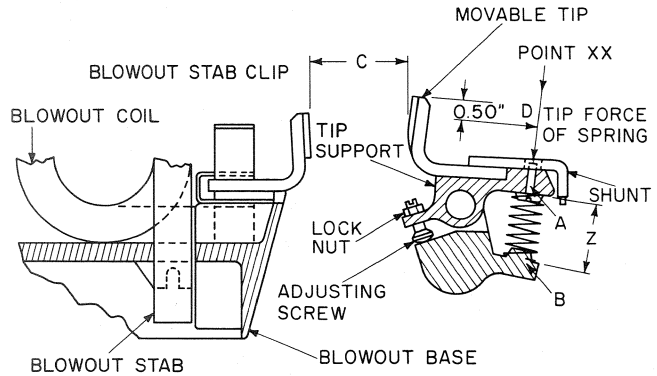
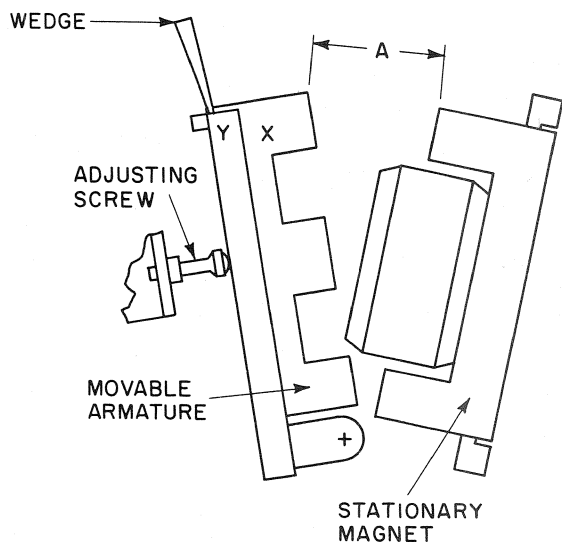

Fig. 14. Movable and stationary contact structures
Fig. 15. Magnet structure (a-c and d-c)
1. (See Fig. 14 and Fig. 15.) With the contacts just touching, measure the magnet gap "A" per Fig. 15. If the gap is less than .23-inch, replace both the movable and stationary contacts. Contacts not replaced at this time may overheat or weld together. Wedge the top of the armature away from its supporting bracket as far as it will go (see Fig. 15) when measuring the "A" dimension.
2. Measure per Fig. 14, 1/2 inch down from top of contacts. Initial force is the force in direction of arrow at "D" that will just start movable contact in motion. Final force is force in same direction at "D" that will just part contacts when contacts are fully closed. Force measurements will only be required if contact springs have been damaged physically or thermally.
3. Spring force as measured on Spring Seat at Point XX per Fig. 14.
The contacts are adjusted to make at the same time within 1/64 inch. When replacing the contacts, check this adjustment by picking up the contactor mechanically until the contacts of the first pole are just touching each other. The maximum gap between the contacts of any other pole of a contactor must not exceed 1/64 inch. Adjust the movable contact position to obtain this requirement as well as the wiper per Table II, by means of the set-screw in each movable tip support. The setscrews should be locked in their final position by means of their lock-nuts. (See Fig. 14.)
Open the disconnect assembly to its service position; the contact forces, per values given in Table II can then be easily measured directly over the spring seat as shown in Fig. 14.
Contact gap "C" (see Fig. 14) must be 1.00 inch per Table II. The "C" dimension can be obtained by slightly moving the back-stop adjusting screw. When the "A" dimension with tips fully open and just touching and the "C" gap are obtained, the initial and final contact forces should be properly set without further adjustment.